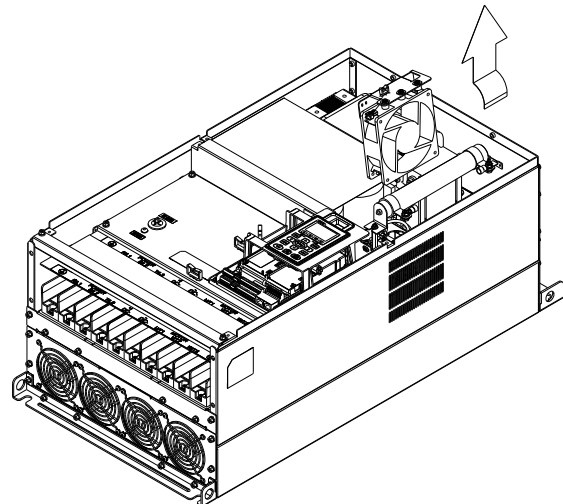

Figure 4
3. Loosen the screws and remove the fan. (figure 3 and figure 4) Screw torque: 24~26 kg-cm / [20.8~22.6 lb-in.] / [2.4~2.5 Nm]